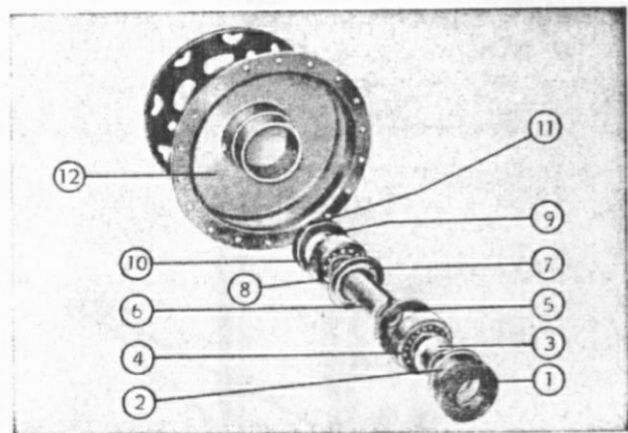

Fig. 28: Hub, dismantled
1. Extract both seal rings (Fig. 28/1/11) of the hub (Fig. 28/12) by means of a screw-driver.
2. The spacer shell (Fig. 28/6) between the bearings (Fig. 28/4/8) has two recesses at one end. Insert a prepared mandrel there and knock out the bearing on one side, but do not tilt it.
3. Take out supporting discs (Fig. 28/5/7) and spacer shell (Fig. 28/6), and press out the other bearing.
1. Mount supporting disc (Fig. 28/5/7) either on the left or right side of the hub, the disc's crown facing the interior of the hub, and then press in the bearing.
2. Fit spacer shell (Fig. 28/6) from the other side, insert supporting disc with the crown facing the interior of the hub, and press in the second bearing.
3. Press in seal rings (Fig. 28/1/11), their inscription on the outside, together with inserted spacers (Fig. 28/3/9) and covering discs (Fig. 28/2/10). The spacers of the front wheel hub are of equal length (except when a speedometer is mounted). In the rear wheel hub the left-hand spacer is longer.